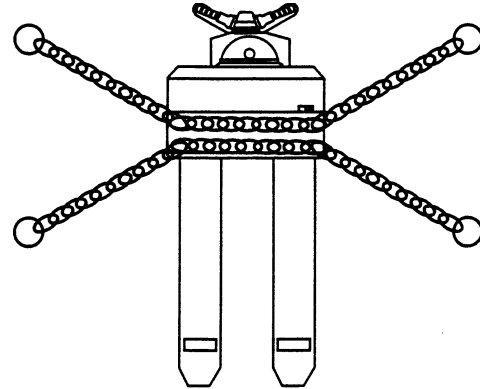

Figure 2-2: Tie-Down for Transport
5. Position the chain ends of one chain toward the front of the vehicle bed and the chain ends of the other chain to the back of the vehicle bed and draw taut. See Figure 2-2.